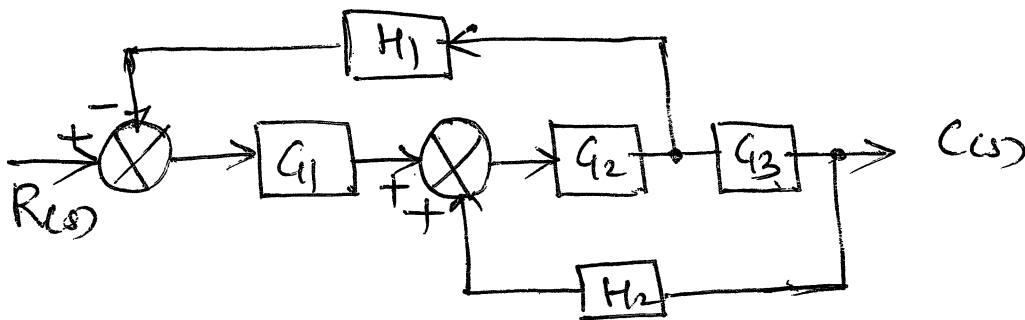

Figure 1
- Derive the transfer function of the system as shown in figure 1, using block diagram reduction techniques.